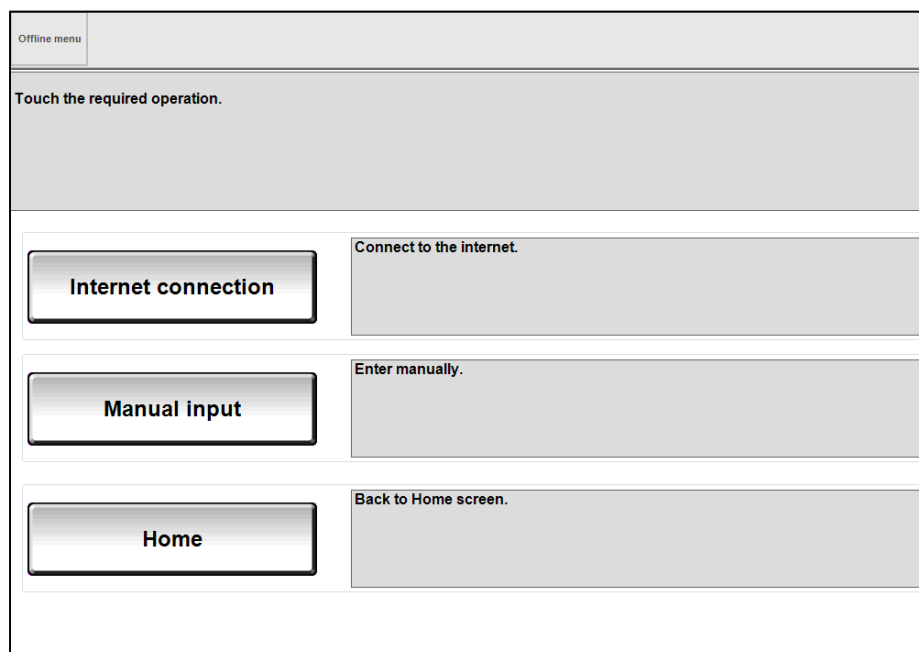

Figure 21
- If the CONSULT PC is not connected to the internet, the screen in Figure 21 will display.